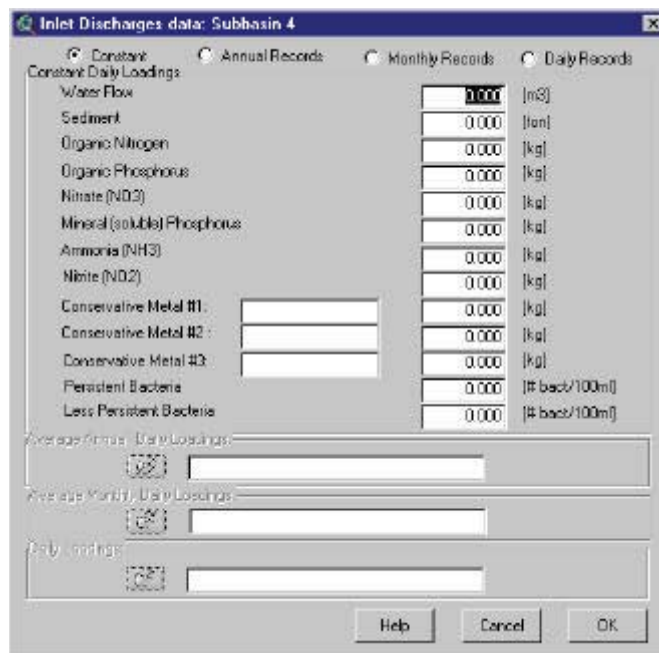

Figure 4.29
- iii. If the mouse cursor was located over a subbasin with inlet discharges when right clicked, a dialog box will display the subbasin inlet discharge data (Figure 4.29).